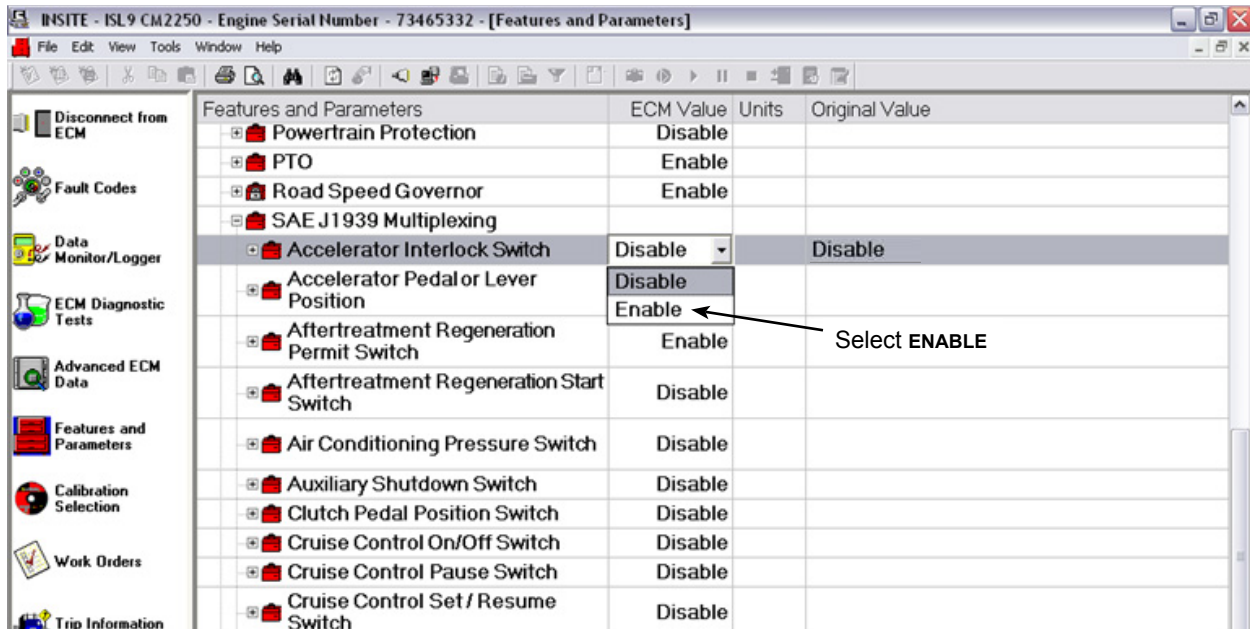

Figure 7 -
- 3.7. Change the **ACCELERATOR INTERLOCK SWITCH** parameter from **DISABLE** to **ENABLE**. See Figure 7.